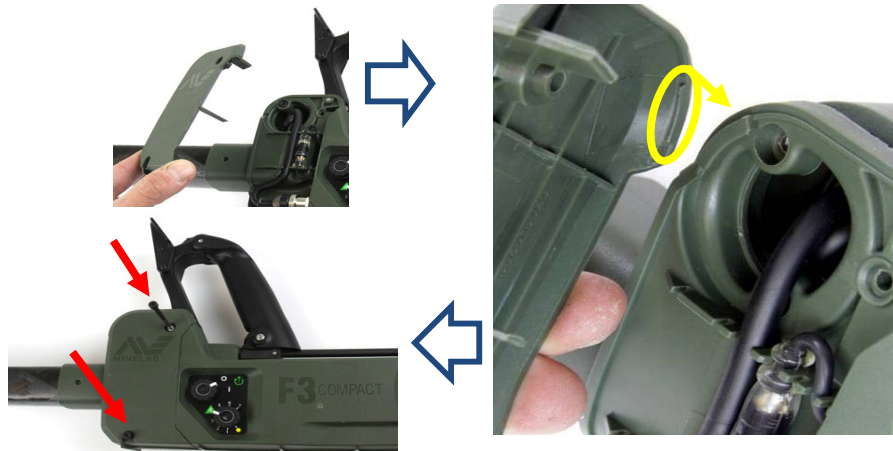

Figure 27: Fitting Hinge Cover
- Attach the hinge cover and make sure the protrusion on the underside of the hinge cover engages into the slot on the detector body near the hinge. Fit the two (2) screws (45mm) into the hinge cover and tighten. Figure 27.